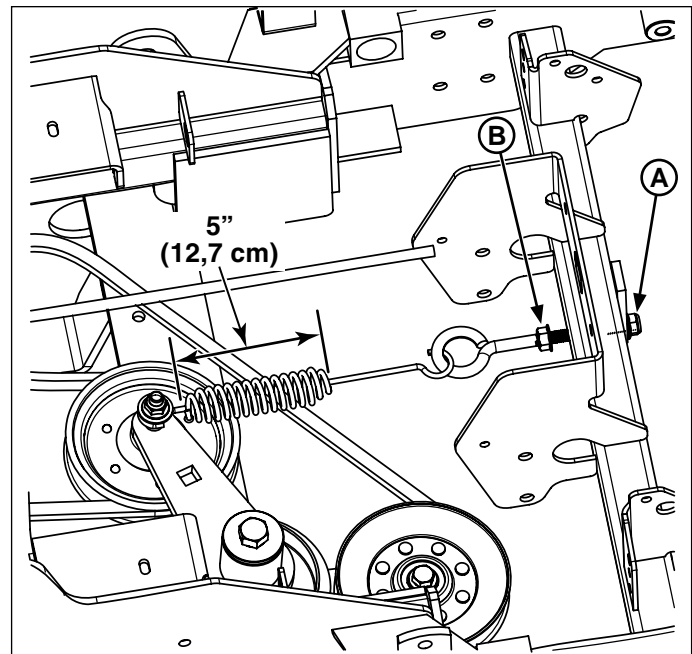

Figure 3. Spring Measurement
8. Install the 3/8 washer (E), and a new 3/8 nylock flange nut (F) onto the idler pulley bolt.
9. Connect the eyebolt (G) to the long hook of the new tensioner spring and route through the drive tensioner bracket on the frame.
10. Install a new 3/8 nylock flange nut (A, Figure 3) onto the eyebolt and tighten until the coiled length of the spring measures 5" (12,7 cm).
11. Once the measurement is achieved, tighten the jam nut (B) against the eyebolt bracket on the unit's frame.